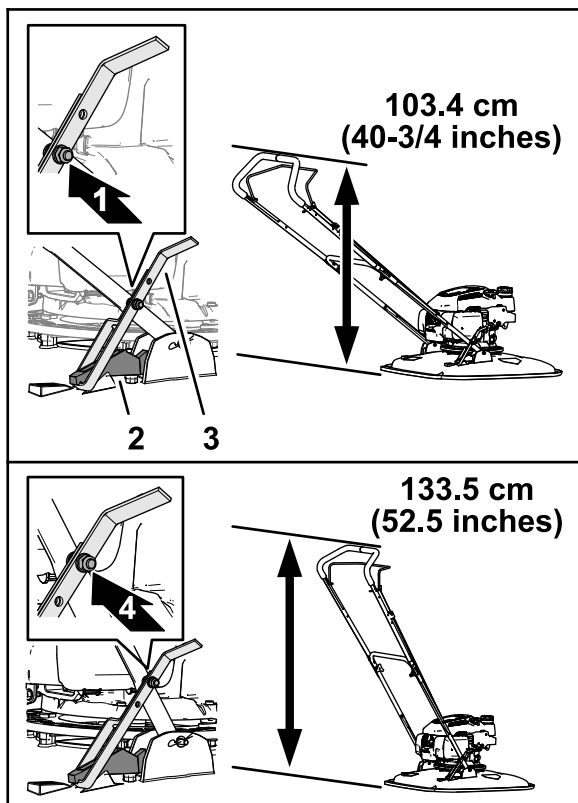

Figure 3
1. Determine the handlebar height when the footstop is secured to the upstop bracket (Figure 3).